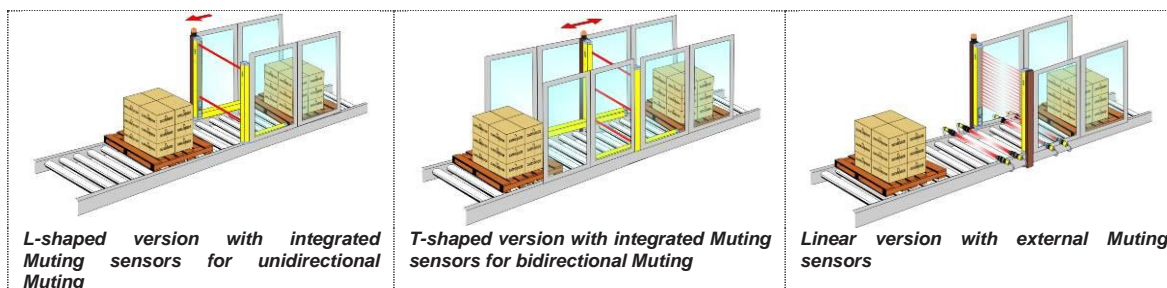

Fig. 39 – Examples of Muting application
- The Muting function excludes the light curtain during functioning, maintaining active the OSSDs' outputs, according to particular operating requirements (Fig. 39).